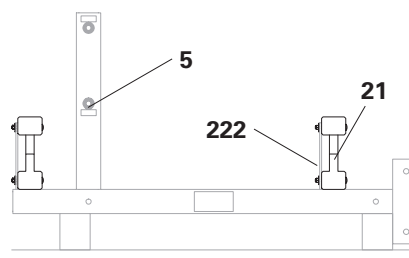

Fig. B5.06
3. Pre-drill Formwork Girder GT 24 (**21**) with $\varnothing 9$ mm and screw on with F.H. bolts DIN 603 M8 x 100 MU (**222**) to the Climbing Platform Beam ACS (**5**). (Fig. B5.06)